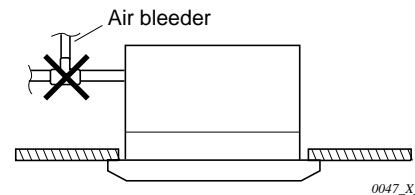

Fig. 2-8
- Do not install an air bleeder tubes, as this may cause water to spray from the drain tube outlet. (Fig. 2-8)